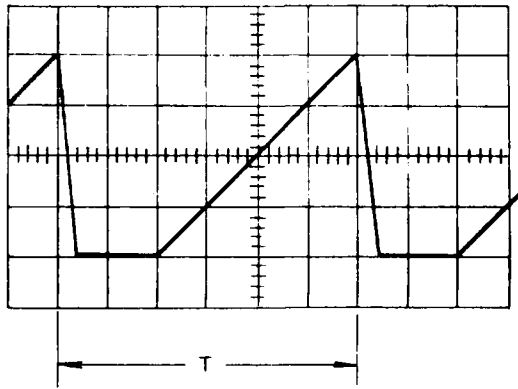

Figure 2-6 Time Interval Measurement
(1) Time Interval. Display the waveform on the screen with the interval to be measured within the graticule limits. With the coarse and fine horizontal position controls, place the initial point at one of the vertical graticule lines (see Figure 2-6). Measure the horizontal distance to the second point. The time interval T is the product of the horizontal distance in centimeters and the setting of the A TIME/CM switch, taking into account the effect of the sweep magnifier if used.